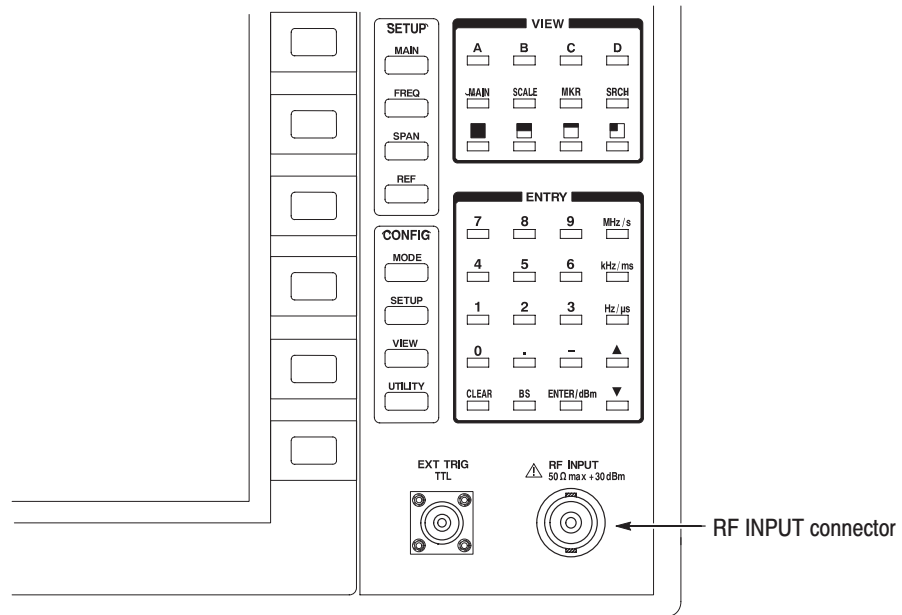

Figure 2–19: Cable connection
2. Connect the signal generator output to the RF INPUT connector on the front panel (see Figure 2–19).
2. To power up the analyzer, place the **Power Switch** in the ON position. See Figure 2–20.
3. The analyzer should boot up with the initial screen shown in Figure 2–21. Now, the preparations to operate the analyzer are complete.